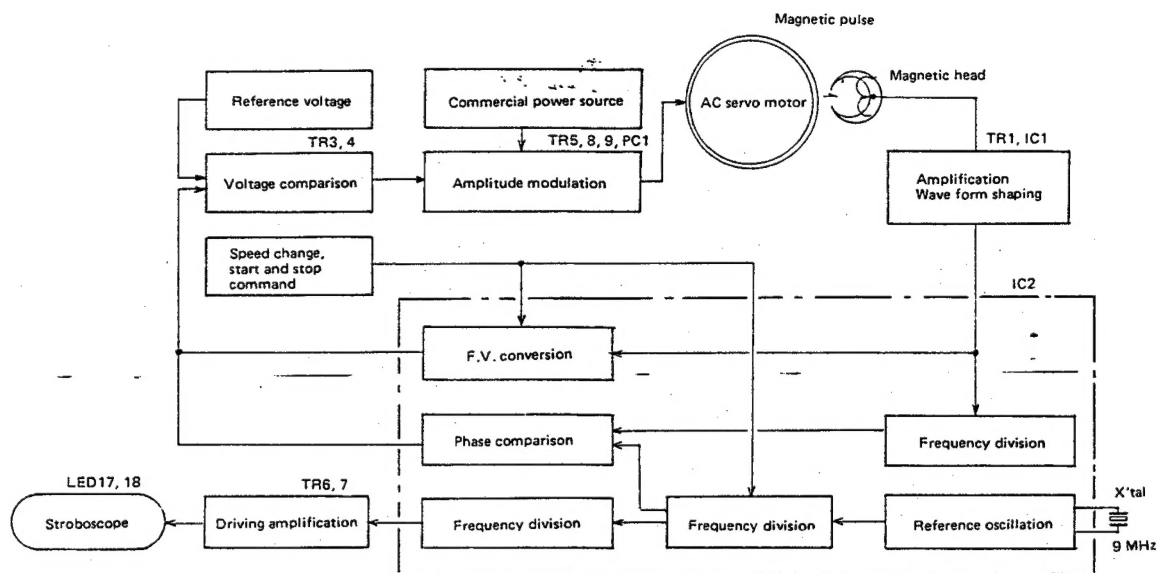

Fig. 3 Phono Motor Servo Block Diagram
- (1) Connect the respective probes of the dual trace oscilloscope to the test terminals for rotation adjustment, TP1 and TP3 to observe the wave form (earth grounding terminal TP2) on motor drive P.W.B.
- (2) Turn 33/45 selector switch of front panel (— 33 — 45) to — 45.
- (3) Adjust the wave form as shown in Fig. 3 by means of "VR1" 45 rotation VR.
- (4) Turn the 33/45 selector switch on the front panel to — 33.
- (5) Adjust the wave form as shown in Fig. 3 by means of "VR2" 33 rotation VR.